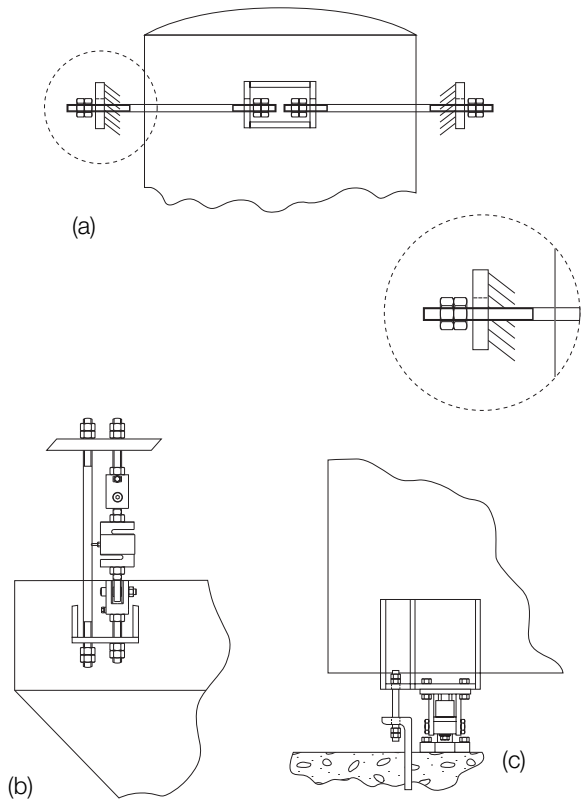

Figure 20-7.
As shown in Figure 20-7 (a), to be most effective, safety check rods must be fitted at or above the filled vessel's center of gravity. Note that stay rods will perform all these functions and more; however, safety check rods are less critical to system operation and therefore do not require the same attention to detail for successful installation.
- On all vessels mounted in tension where failure of the normal suspension means would allow the vessel to fall and cause injury or damage, see Figure 20-7 (b).
- In place of horizontal check rods when it is not practical to use these to ensure the stability of tall slender vessels or those subjected to wind or seismic forces, see Figure 20-7 (c).